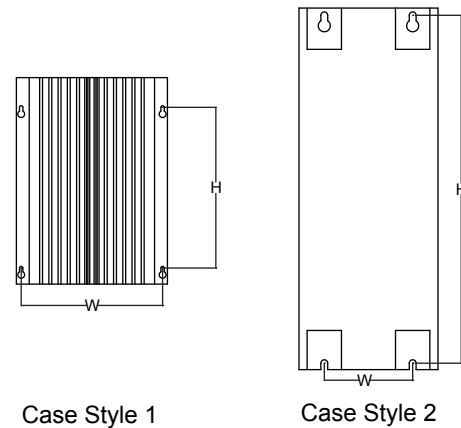

Figure 5
4. The unit should be mounted on a sturdy supporting structure such as a wall or supporting post. Please take into account the weight of the unit (refer to the Specifications section under the appropriate model). Install the unit to the wall using four mounting screws (not included) as shown in Figure 5 and Table 4 DIMENSIONS.